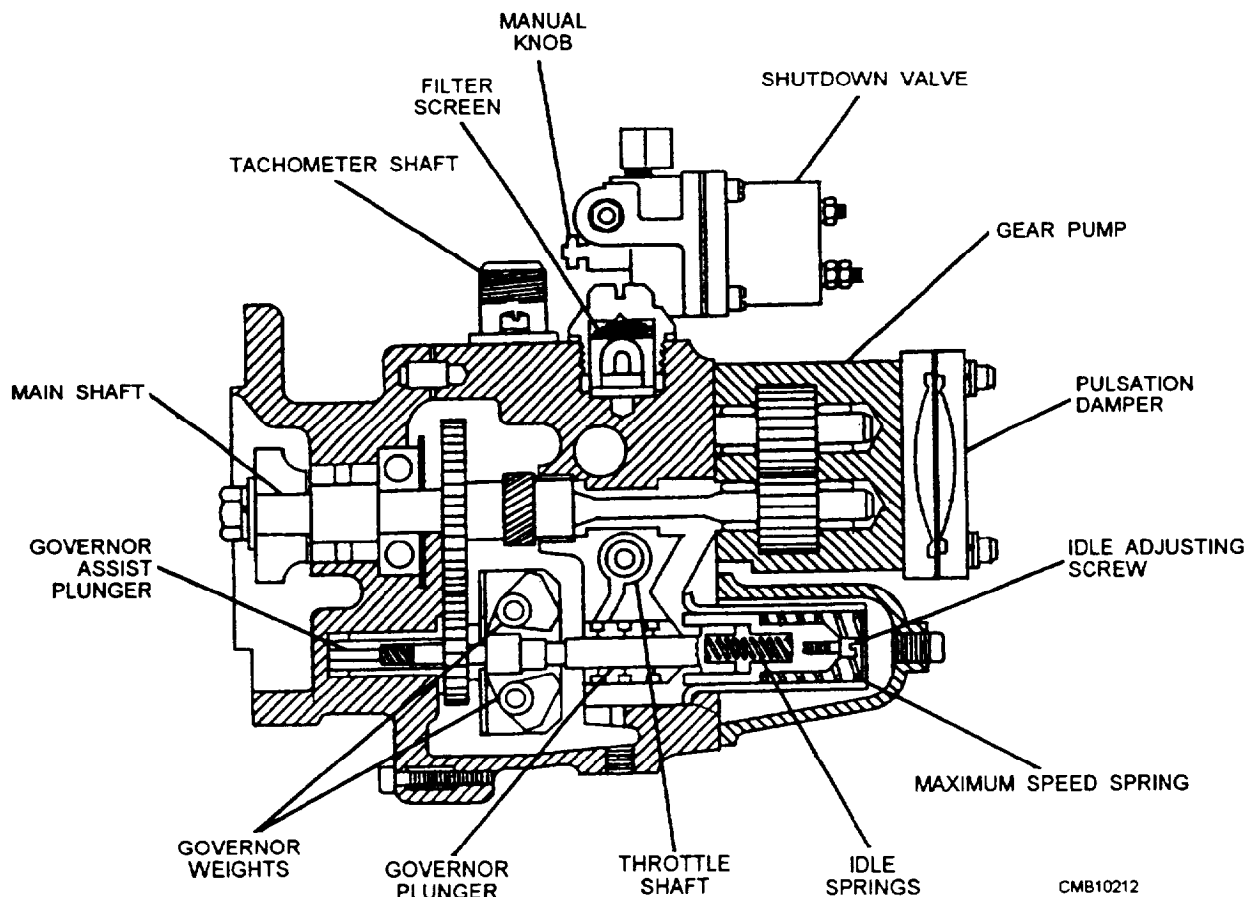

Figure 5-29.—Pressure-time (PT) gear pump.
**FUEL PUMP.**—The fuel pump (fig. 5-29) commonly used in the pressure-time system is the PTG-AFC pump (PT pump with a governor and an air-fuel control attachment). The "P" in the name refers to the actual fuel pressure that is produced by the gear pump